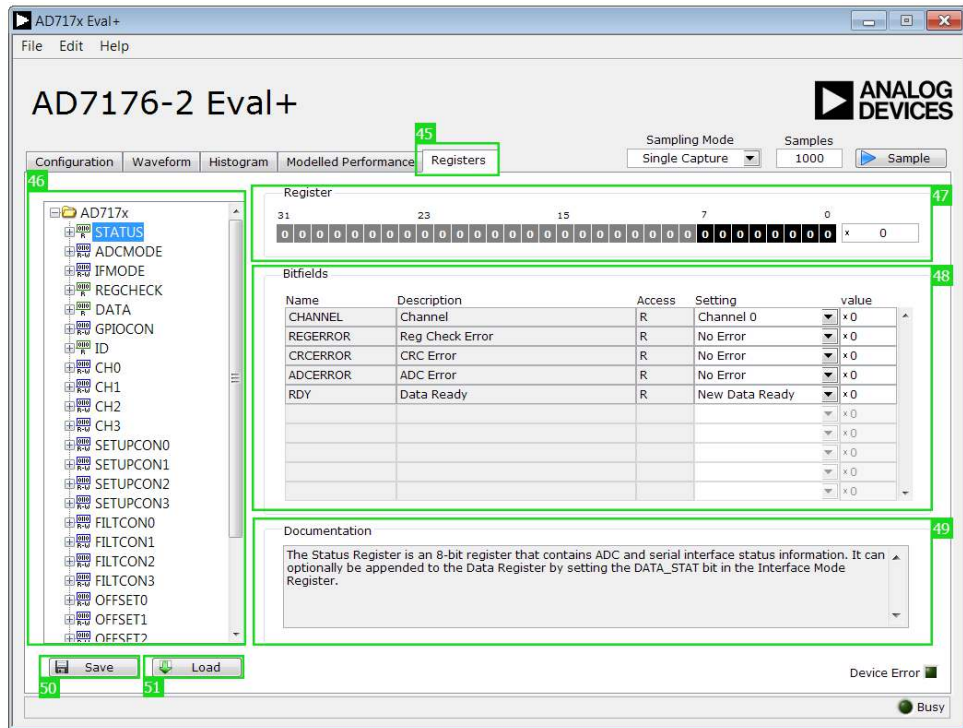

Figure 26. **Registers** Tab of the *AD7176-2* Evaluation Software
Figure 26 shows the **Registers** (45) tab.
To exit the software, click the close button at the top right corner of the *AD717x Eval+* software (see Figure 26).